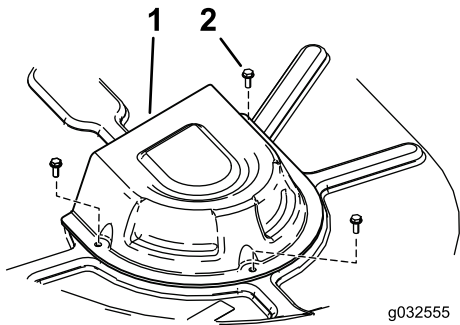

Figure 70
4. Remove the pulley covers (Figure 70).